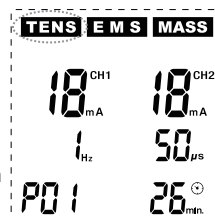

Fig. 14
If in any programme the intensity setting was increased from **0** to any value on one or two channels (**CH1**) or (**CH2**), the device switches into the operating mode and starts the application. The intensity of the stimulation can be adjusted to the individual needs of the user, with the highest intensity being **90 mA** (milliampere). The information about the selected output intensity in **mA** (milliampere) and the remaining time in **minutes** is shown on the display (see **Fig. 14**). The pre-programmed programmes (**P01** etc.) have a non-adjustable application time of **30 minutes** per application. After this time (the time information shown on the display is then **0 min.**) has run out, the device automatically stops the pulse output and returns to the basic mode. The output intensity is set to **0** and the yellow indicator lights ① for channel 1 (**CH1**) and/or ② for channel 2 (**CH2**) go out. However, you can immediately stop the application by pressing the key ④ (⏏). Then, the device returns to the basic mode. If you wish to switch off the device completely, you must press the key ④ (⏏) for several seconds.